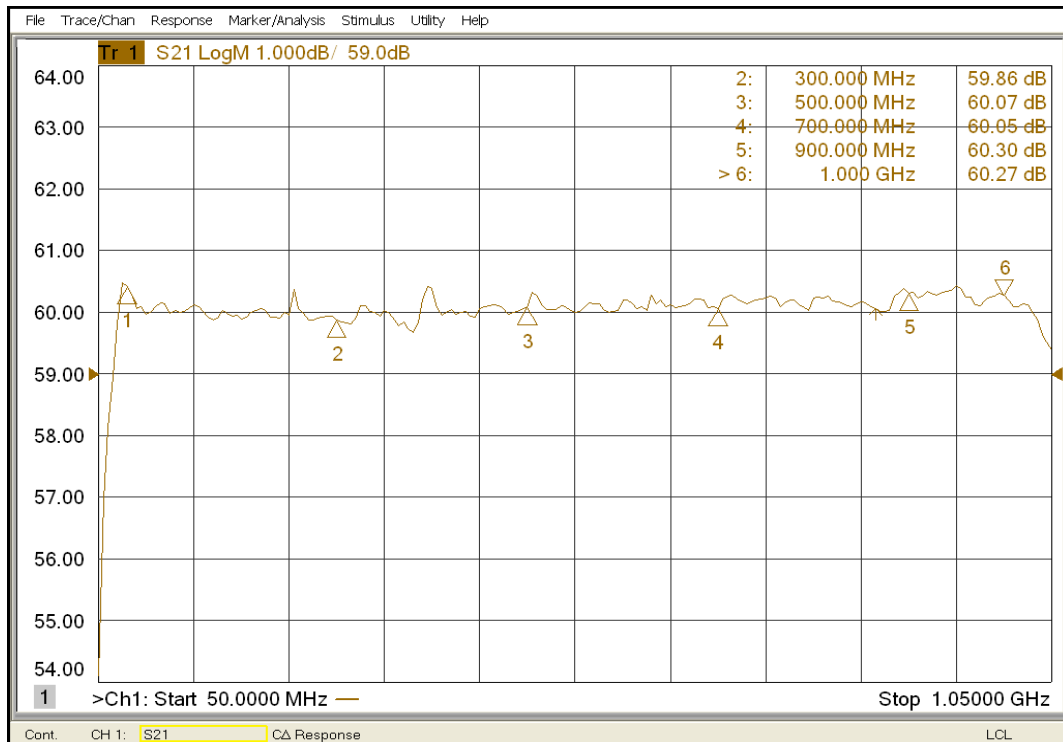
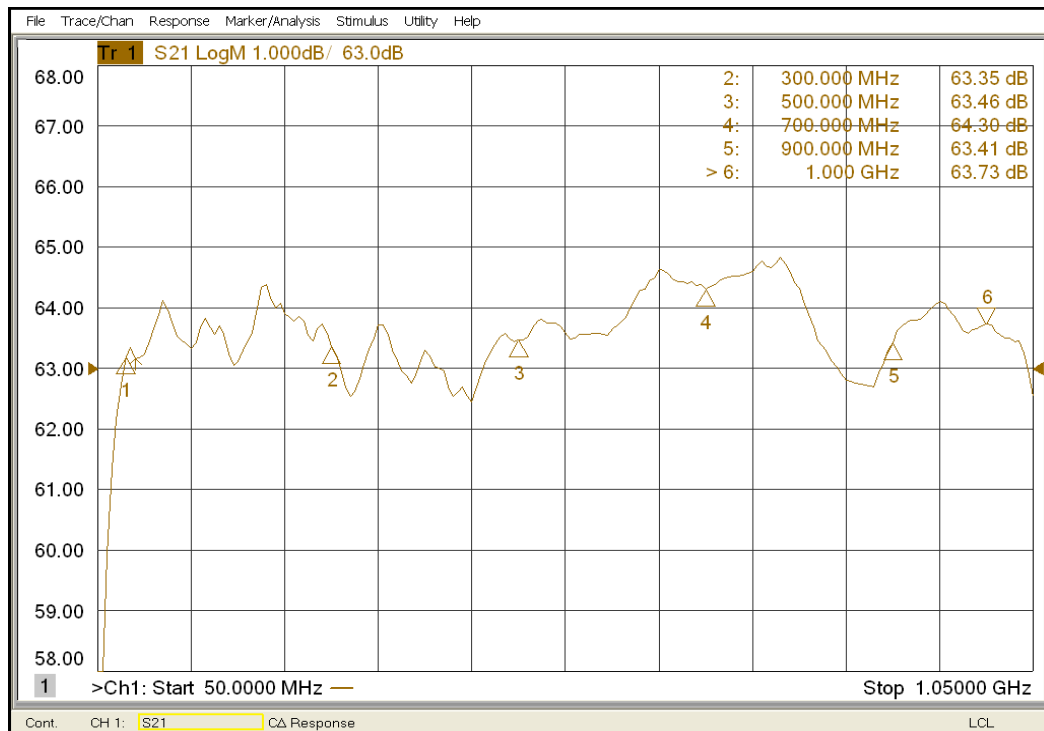

Figure 4-1. Typical Response at 0 dBm Input
Figure 4-2. Typical Response at -20 dBm Input
1. The Model 750W1000B's typical gain response at 0 dBm input and -20 dBm input is shown in Figures 4-1 and 4-2. The actual gain may vary considerably from that shown in Figure 4-1 but should be ≥ 58.8 dBm. Figure 4-2 should be ≥ 61.0 dBm. *NOTE: If the overall gain is low, the amplifier chain can be separated at the input of A3 Two-Way Splitter.*